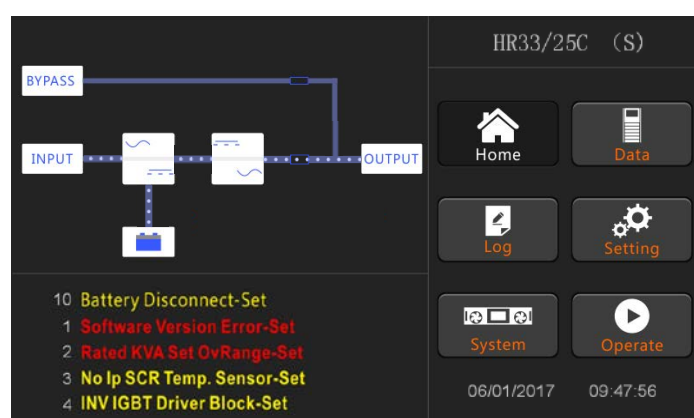

Fig.5-5 Interface of normal mode
(4)Close the external battery switch, the battery indicator flashes, and then the UPS charges the battery. The UPS works in normal mode. As shown in Figure 5-5